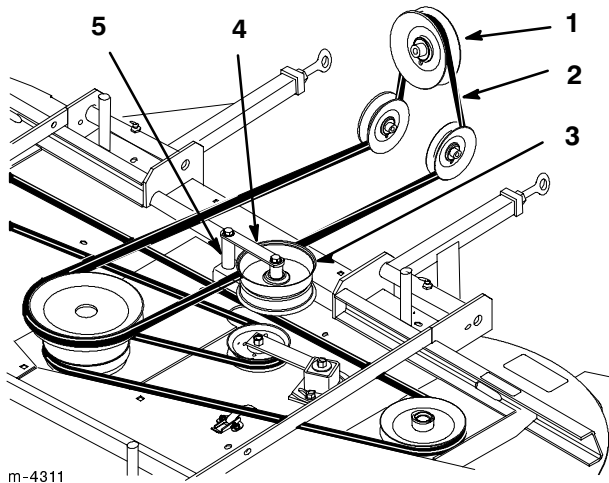

Figure 53
3. Remove PTO drive belt from clutch, around rear idler pulleys and off of mower top center pulley (Fig. 53).
4. Remove bolt, nut, washer and spacer from idler pulley bracket assembly. Remove belt from bracket assembly (Fig. 53).
6. Install belt into idler pulley bracket assembly. Install bolt, nut, washer and spacer into assembly (Fig. 53).